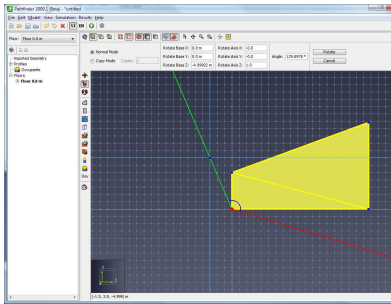

Figure 120. Reference line (red) and rotation angle (green)
- The second defines a reference vector extending from the rotation base (Figure 120).